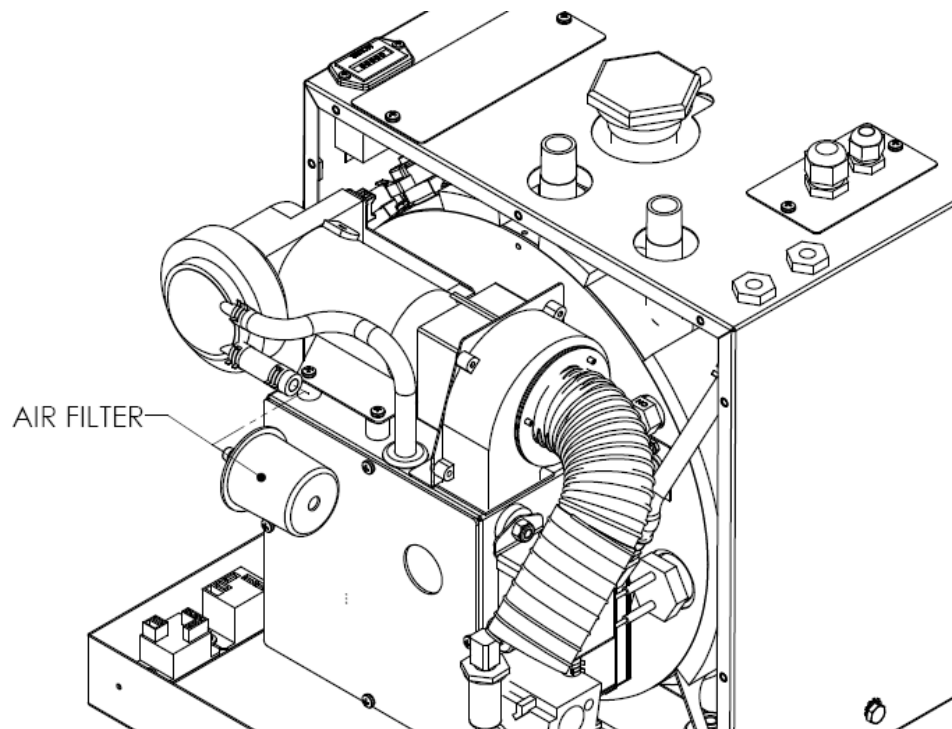

Figure 23: Air filter assembly
8. Once the tank has been drained, disconnect the yellow connector with the matching BLACK heat shrink and unplug the connector going from the primary AC heating element to the primary AC relay (see Figure 23).